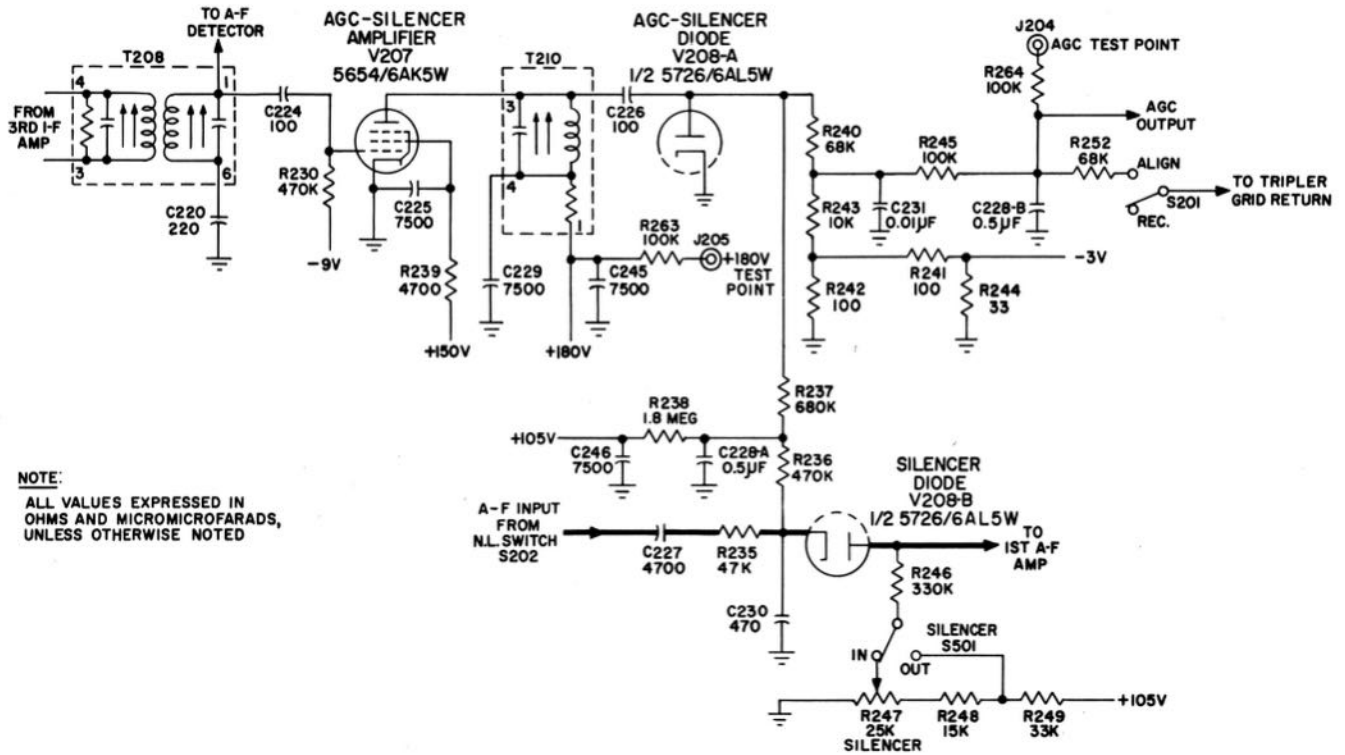

Figure 2-9. AGC and Silencer Circuits, Simplified Schematic Diagram
e. AGC-SILENCER AMPLIFIER. — The AGC-silencer amplifier, shown in figure 2-9, amplifies the output from the i-f amplifiers to a level which is suitable for use in the AGC and silencer circuits. The i-f signal from terminal 1 of transformer T208 is coupled through capacitor C224 to the control grid of V207, a 5654/6AK5W pentode amplifier. The grid is biased from the -9 volt source in the power supply through resistor R230. The screen grid is supplied from the +150 volt source in the power supply, and is decoupled from the power supply by resistor R239 and capacitor C225. Plate voltage is supplied from the +180 volt source through transformer T210. Transformer T210 comprises a parallel-resonant circuit at the second intermediate frequency, 1.775 mc, and serves as the plate load for tube V207. The amplified signal from this stage is coupled through capacitor C226 to AGC-silencer diode V208A.
f. AGC-SILENCER DIODE. — The AGC-silencer diode, V208A, is a shunt rectifier which provides the required d-c voltages for the AGC and silencer circuits. As shown in figure 2-9, one half of a 5726/6AL5W twin diode serves this purpose. When switch S201 is in the REC. position, the diode load consists of resistors R240 and R243 in series with the series-parallel network of resistors R242, R241, and R244. The junction of resistors R241 and R244 is connected to the -3 volt bias source, so the plate of V208A is biased at approximately -1.8 volts. When the peak value of the 1.775 mc signal, coupled to the diode plate from V207, exceeds this delay bias, the diode conducts to develop a negative rectified voltage across the load resistors. The voltage which is obtained at the junction of resistors R240 and R243 is the AGC voltage; this voltage is bypassed for radio frequencies by capacitor C231 and is fed to the AGC line through a low-pass filter, R245 and C228B, which removes the audio frequency components from the voltage. AGC voltage is applied to the first and second r-f amplifiers, first and second i-f amplifiers, and the first a-f amplifier. Resistance-capacitance decoupling networks are connected in the grid circuits of all the controlled r-f and i-f amplifiers. Regardless of whether or not AGC voltage is developed from a re-
V208B, connected between N.L. switch S202 and the first a-f amplifier, V209A, permits the audio signal to pass during conduction and cuts off the audio signal when it is not conducting. Diode V208B is one half of a type 5726/6AL5W dual diode; see figure 2-9. The silencer may be connected into, or cut out of, the receiver circuit by means of SILENCER switch S501. SILENCER potentiometer R247 is used to adjust the silencing threshold.